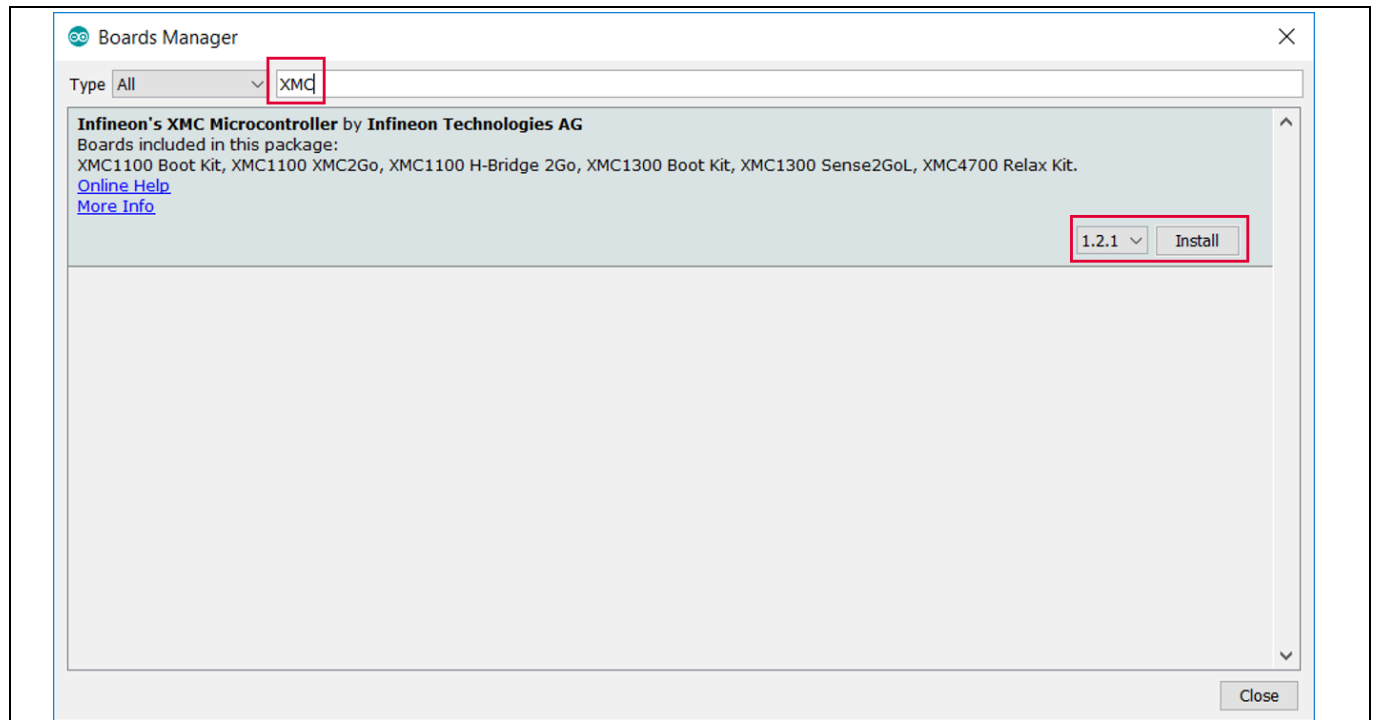

Figure 9 Installing the XMC package
6. Navigate to Tools > Board > Boards Manager (Figure 9). Type "XMC" into the search field. Select the latest version from the drop-down box and click "Install".